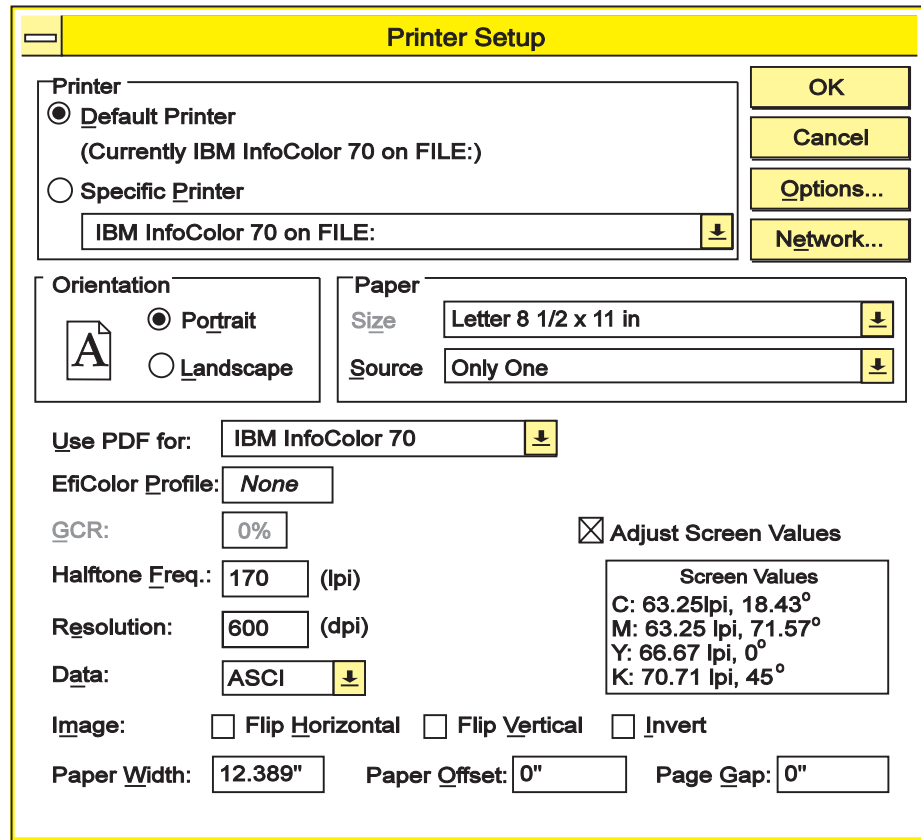

Figure 89. Sample Printer Setup Window from QuarkXPress 3.32
- 1 Select the **Printer Setup** window, as shown in Figure 89.